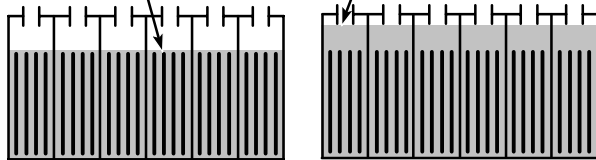

FIG. 75
1. Check battery fluid level frequently to prevent battery damage. The fluid should be at the level shown (Figure 75). Add distilled water if low. DO NOT OVERFILL, the fluid may expand and overflow when charging.